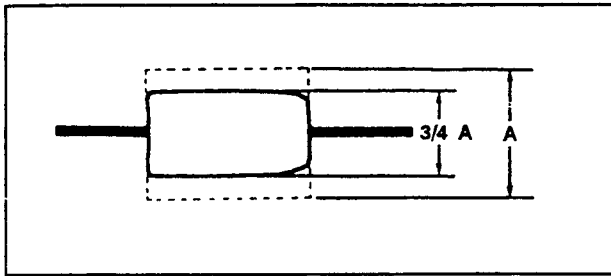

Fig. 43
- 1) Confirm that the amplitude of RF waveform is reduced to approx. 3/4 when the track shift mode is set (Fig. 43).